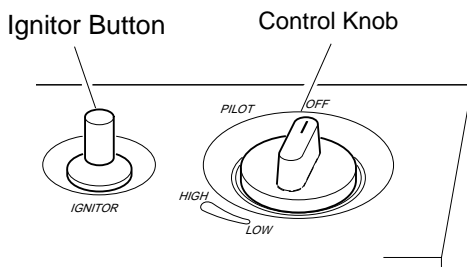

Figure 15 - Control Knob In The OFF Position
4. Wait five (5) minutes to clear out any gas. Then smell for gas, including near the floor. If you smell gas, **STOP!** Follow "B" in the safety information at the top of column 3, page 9. If you don't smell gas, go to the next step.
5. Press in control knob and turn counterclockwise to the PILOT position. Keep control knob pressed in for five (5) seconds (see Figure 15).